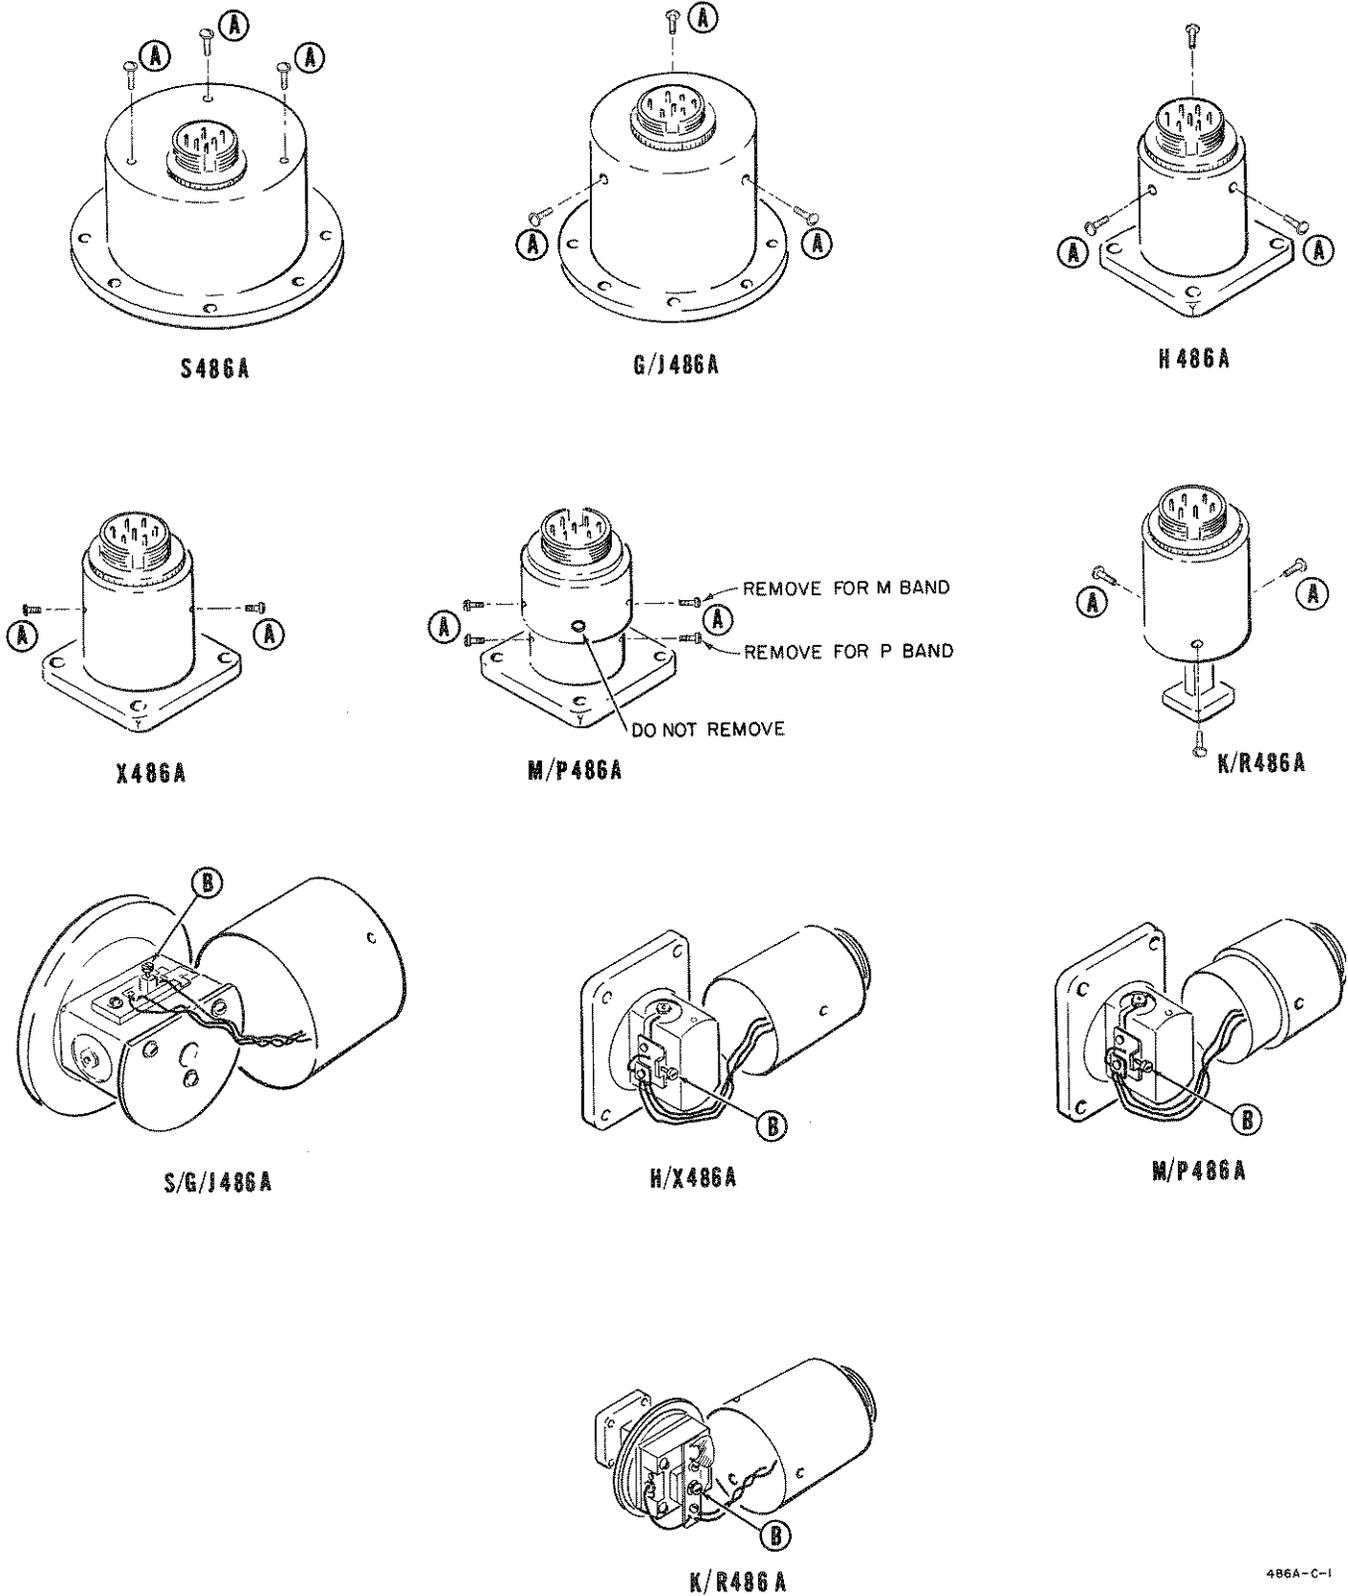

Figure 6. Cover Screws (A) and Compensating Screws (B) in Model 486A Thermistor Mounts
59. To recompensate the mount, refer to Figure 6, and proceed as follows:
- a. Remove cover screws (A).
- g. If meter is pegged upscale, turn compensating screw (B) counterclockwise to zero meter.